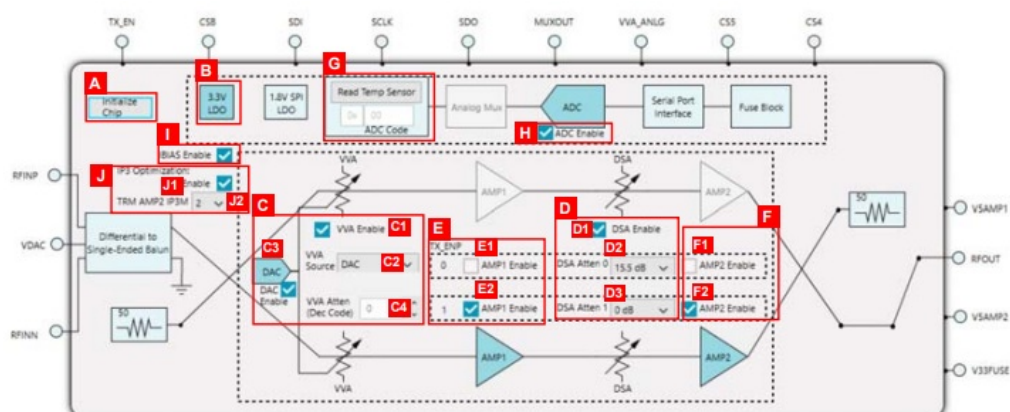

Figure 6. ADL6317 Chip Block Diagram
2. Click Initialize Chip (Label A, see Figure 6).
3. Click and adjust the blocks in Label B to Label H, as shown in Figure 6, if necessary.
Table 2. Main Screen Functionality (see Figure 6)